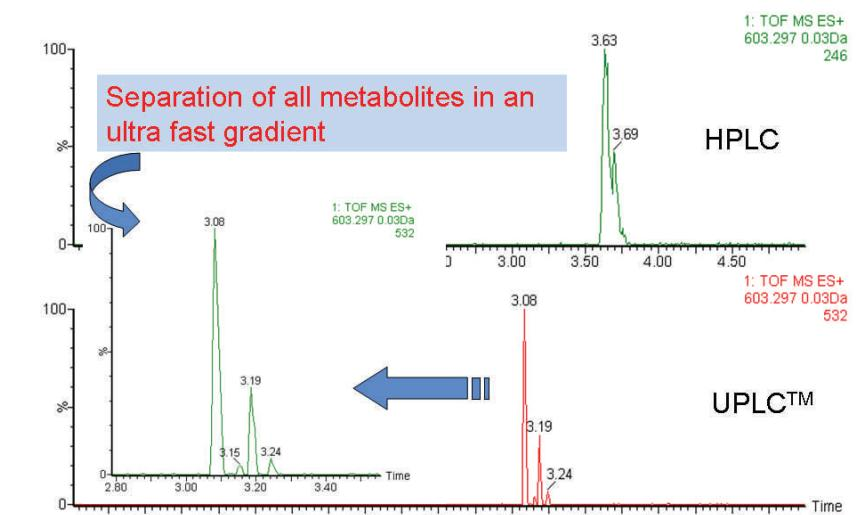

Figure 3. Comparison of UPLC vs. HPLC for the glucuronidated metabolites of Verapamil in vivo.
- In the case of in-vivo samples, UPLC also provides a much higher degree of separation when compared with HPLC as it can be seen in Figure 3.